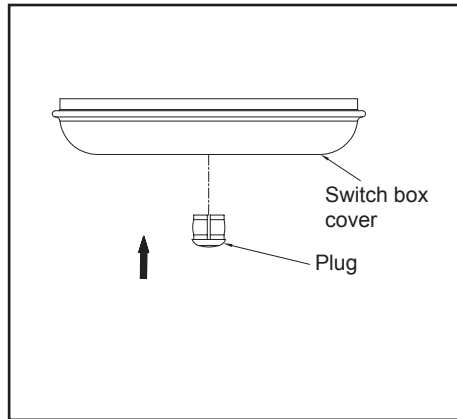

Figure 18
2. Press the plastic plug (provided) into the center hole of the switch box housing (figure 18).